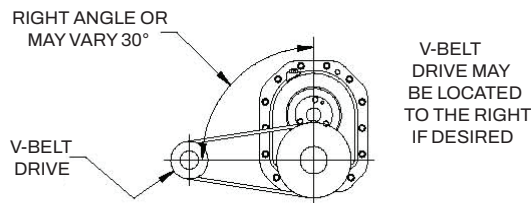

Figure 3 - Angle of V-Drive
3. Install motor and V-belt drive so belt pull will approximately be at right angles to the center line between driven and input shaft (Figure 3). This will permit tightening the V-belt drive with the Torque-Arm.